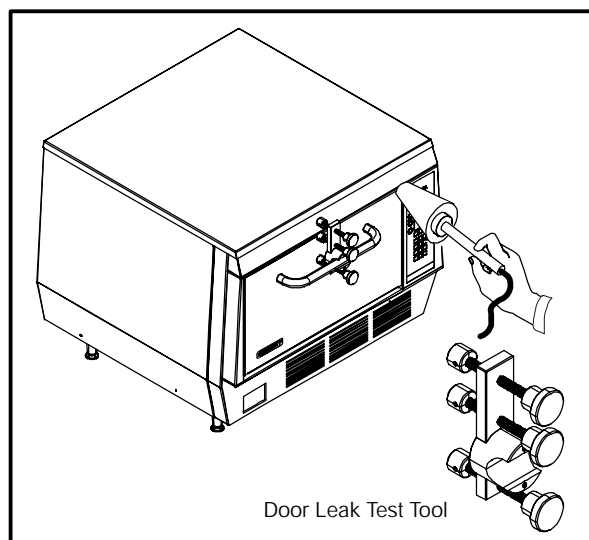

FIGURE 1
3. Position the Blodgett door leak test tool on the door handle. See FIGURE 1 for correct positioning of the the leak test tool.